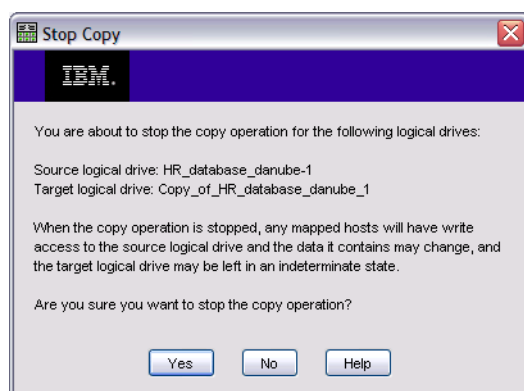

Figure 11-49 Stop VolumeCopy
2. The Stop Copy window appears (Figure 11-49).